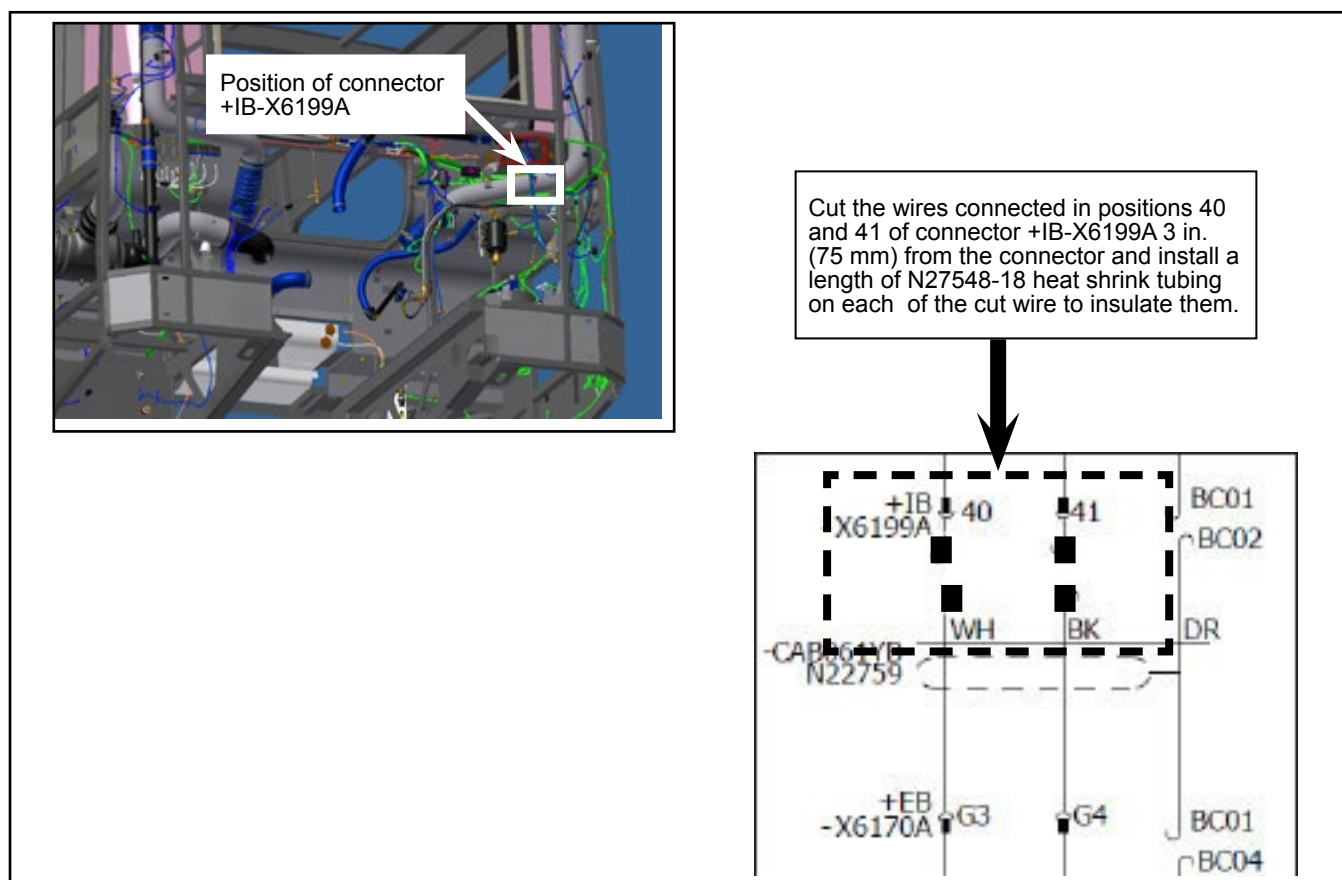

Figure 10 - Location and Modification of the +IB-X6199A Connector
- 1.24. Locate the +IB-X6199A connector in the engine compartment. See Figure 10.
- 1.25. Cut the wires connected in positions 40 and 41 of +IB-X6199A 3 in. (75 mm) from the connector. See Figure 10.
- 1.26. Cut four lengths of N27548-18 heat shrink tubing and install a piece on each on of the cut wire ends to insulate them properly. See Figures 10.